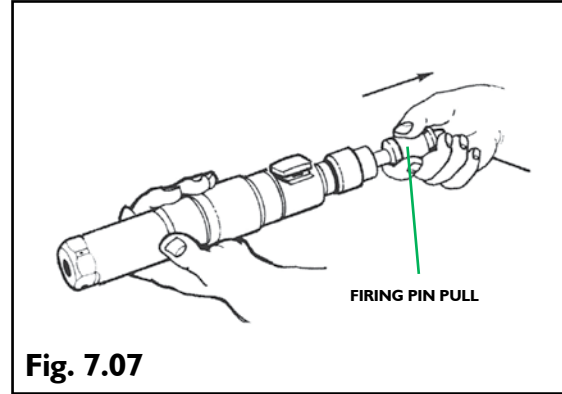

Fig. 7.07
- 3.2 With the tool facing away from you, pull the firing pin pull upwards until there is a “CLICK”, the tool is now cocked and ready to fire (see Fig 7.07).